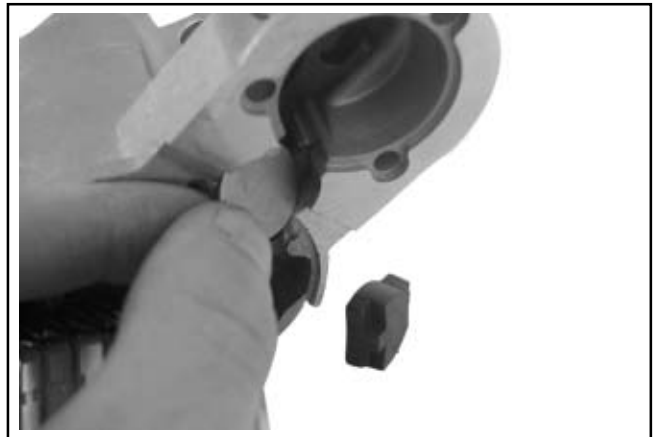

Figure 8-47.
7. Remove the drive lever pivot bushing and backing plate from the end cap. See Figure 8-47.